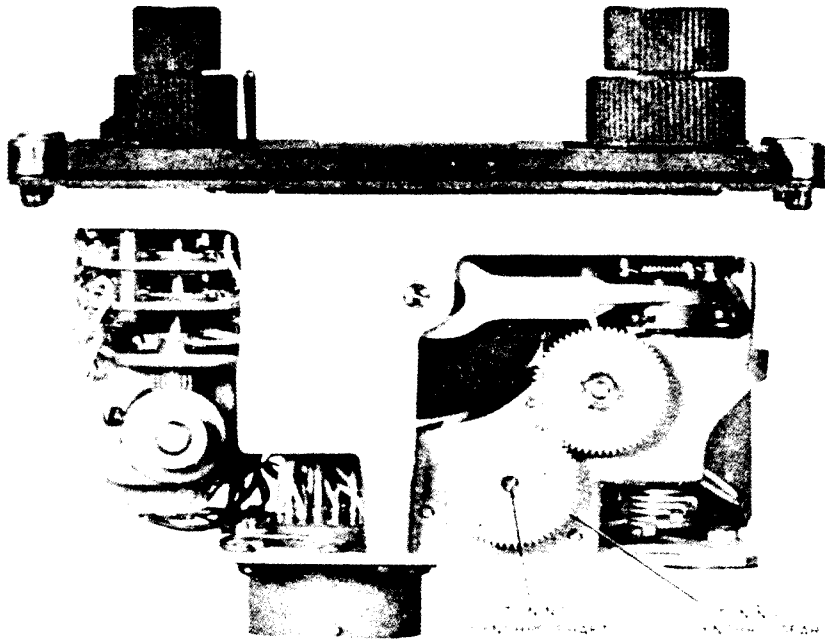

Figure 10. Direction Finder Control C-6899/ARN-83, parts location.
(5) Loosen the two setscrews on the hub of the tuning synchro gear of Direction Finder Control C-6899/ARN-83 (see fig 10 for location), and use a narrow-bladed screwdriver to rotate the shaft on the tuning synchro of Direction Finder Control C-6899/ARN-83 until the VTVM indicates null. (R)